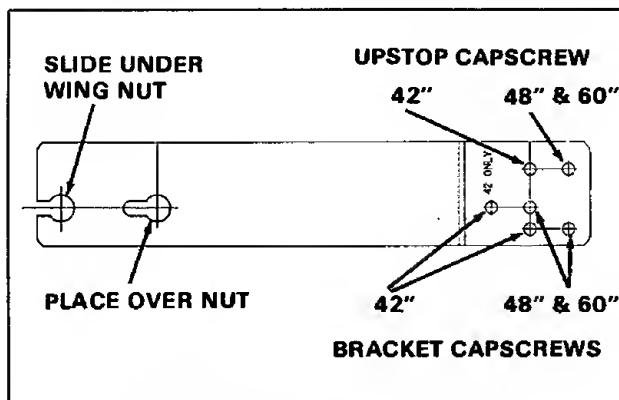

Figure 14. (Typical Bracket Shown)
- Install upstop (I) with one 1/4-20 x 7/8 capscrew (K), 1/4-20 x 5/8 capscrew (L) and 1/4 locknuts. Note that capscrew (K) goes through bracket. Refer to figure 14 for correct location for mower size.
- Install bracket with two 1/4-20 x 3/4 trusshead screws and 1/4 locknuts. Refer to figure 14 for correct capscrew location for mower size.